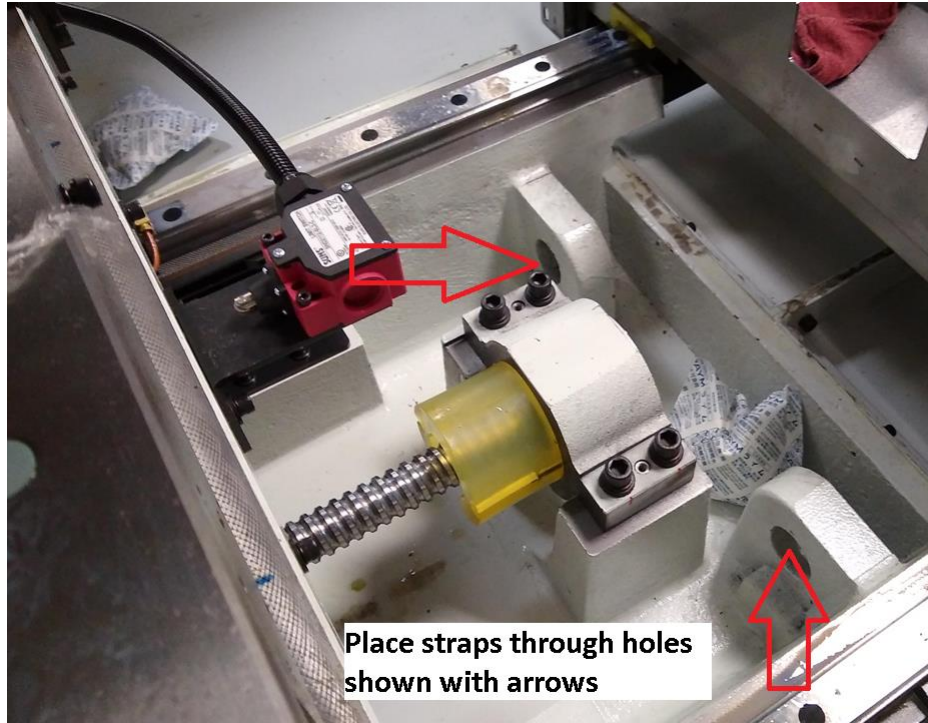

Figure 7 – Lifting Machine with Straps
- To move the machine while on the pallet, a 15000 lb. forklift with a 24" load center & 6' fork extensions is required. Depending on the load center or rating of the forklift, a larger forklift may be required. The center of gravity (CG) of the machine while on the pallet is ~48" from the edge of the pallet.
- The TMC may be lifted via a crane with 4 points shown in figure 7 and 8.